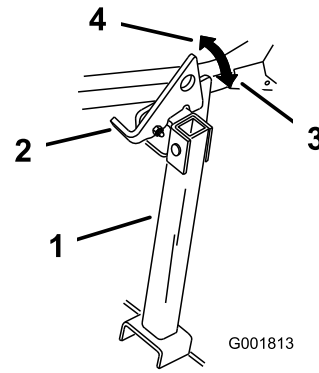

Figure 41
2. Raise the latch to the unlocked position (Figure 41).